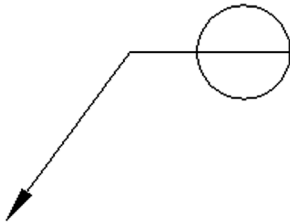

FIGURE 6.20 Multileader.
Step 3. Click again to place the Multileader and bubble. You see something like Fig. 6.20.